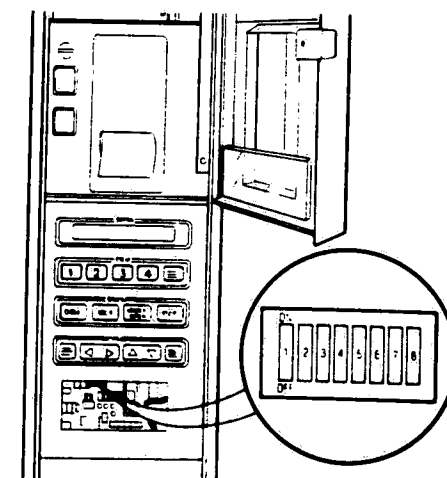

FIGURE 7-6 - Printer PC Board Dip Switches
2. Make the appropriate settings on the Dip switches (eight) which are then accessible through the cutout in the sheet metal (Figure 7-6).